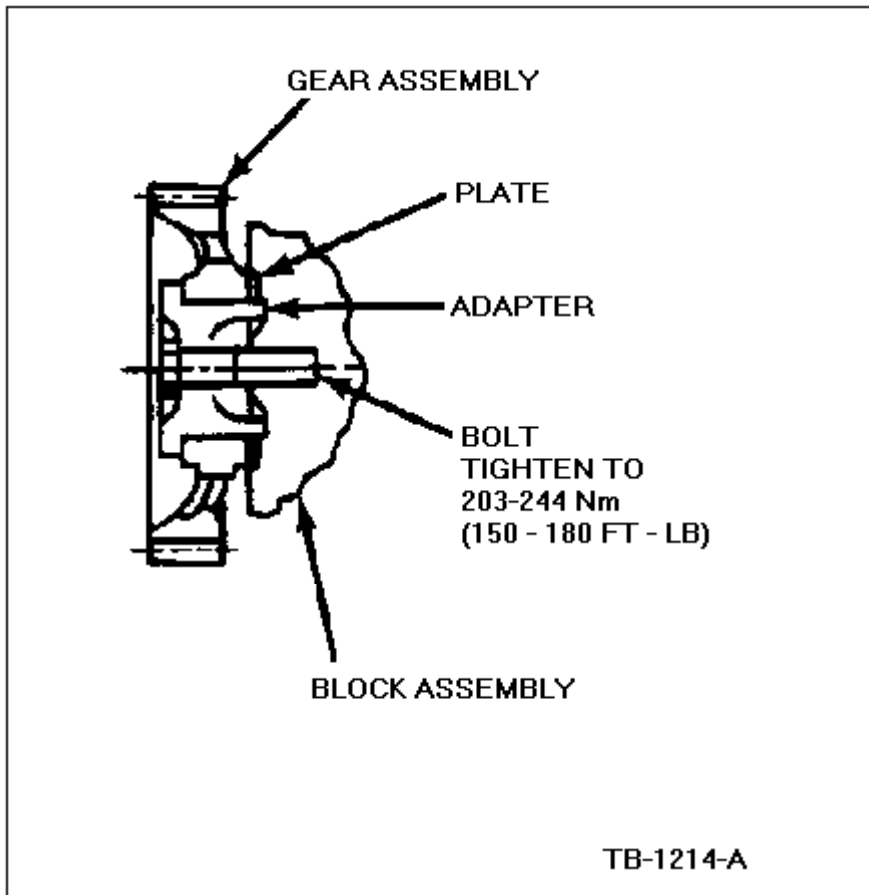

Figure 2 - Article 91-19-13
1. Assemble new adapter into gear. Refer to Figure 2.
- a. Insert the bolt through the adapter. Refer to Figure 2.
- b. Assemble gear, adapter and wear plate to engine block. Refer to Figure 2.
- c. Tighten the bolt to 150-180 lb.ft. (203-244 N-m). Refer to Figure 2.